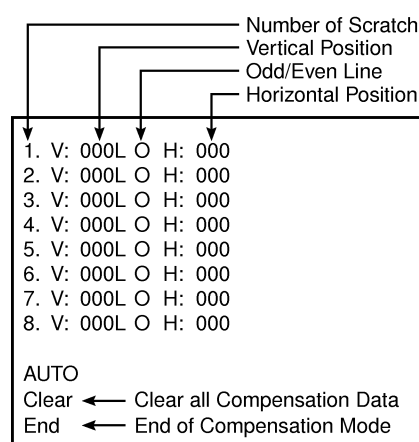

Fig. 4-7
- The Menu will be displayed as shown Fig. 4-7 after execute the Scratch Compensation Mode.